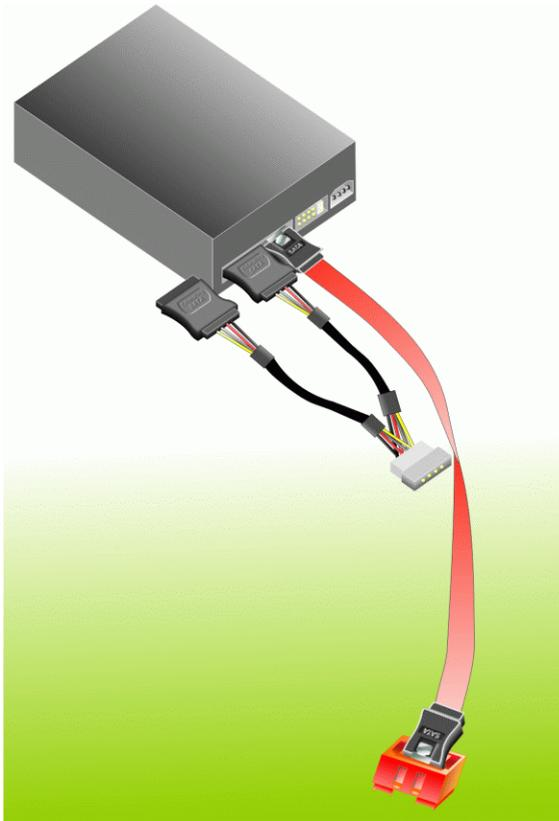

Figure 5-10: SATA Power Drive Connection
- Step 3:** **Connect the cable to the SATA disk.** Connect the connector on the other end of the cable to the connector at the back of the SATA drive. See **Figure 5-10**.
- Step 4:** **Connect the SATA power cable.** Connect the SATA power connector to the back of the SATA drive. See **Figure 5-10**.